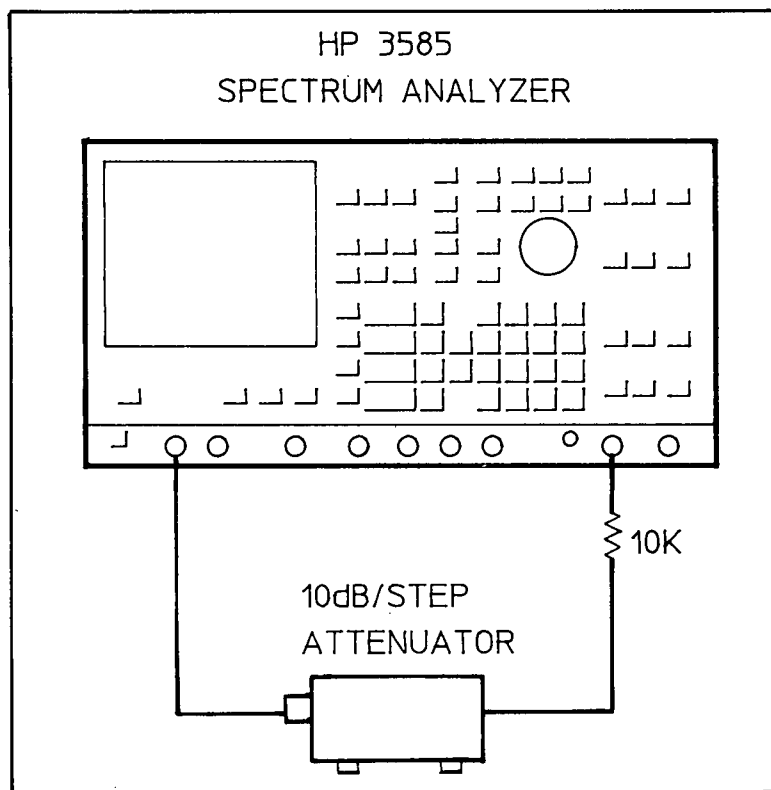

Figure 5-42 1MΩ Input Capacitance Adjustment Set-Up
b. Replace the 50Ω termination with a 10kΩ series resistor ($\pm 1\%$, 1/8, HP Part Number 0757-0442). This resistor should be connected as shown in Figure 5-42. Use short clip leads to connect the resistor to the attenuator and the 3585 1MΩ input.